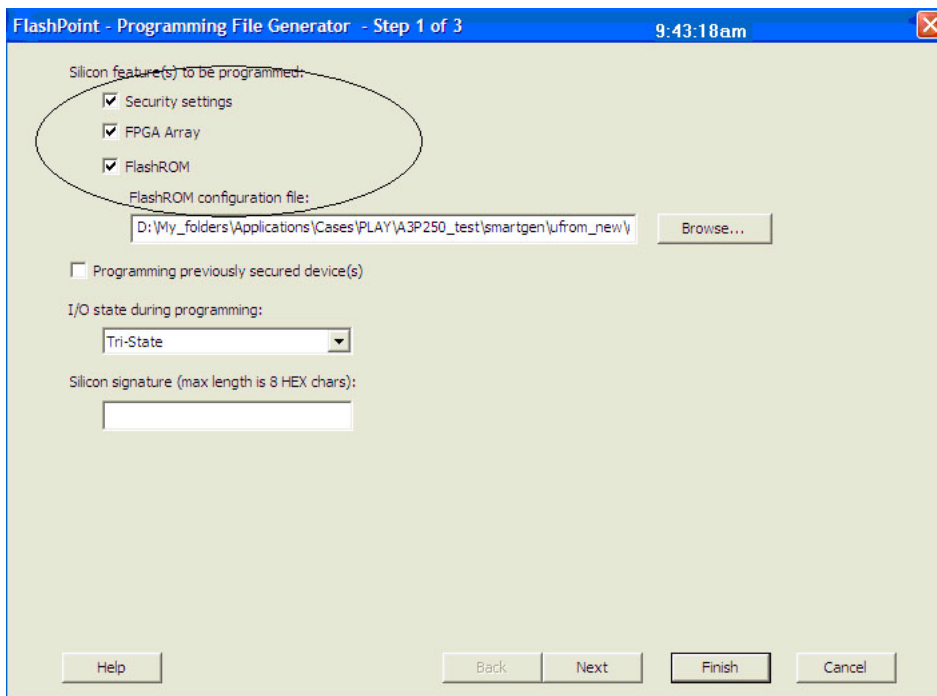
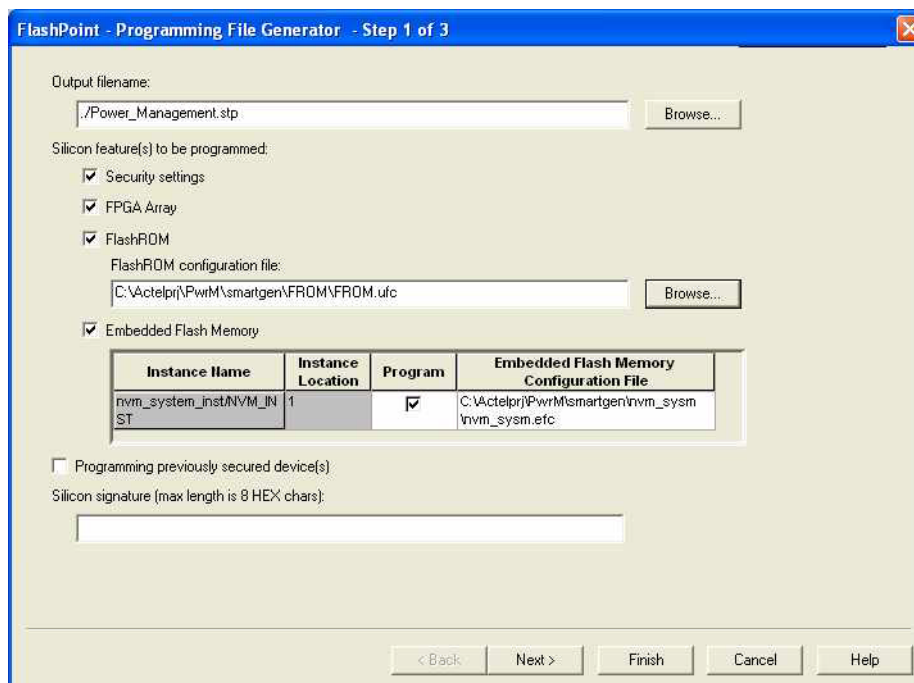
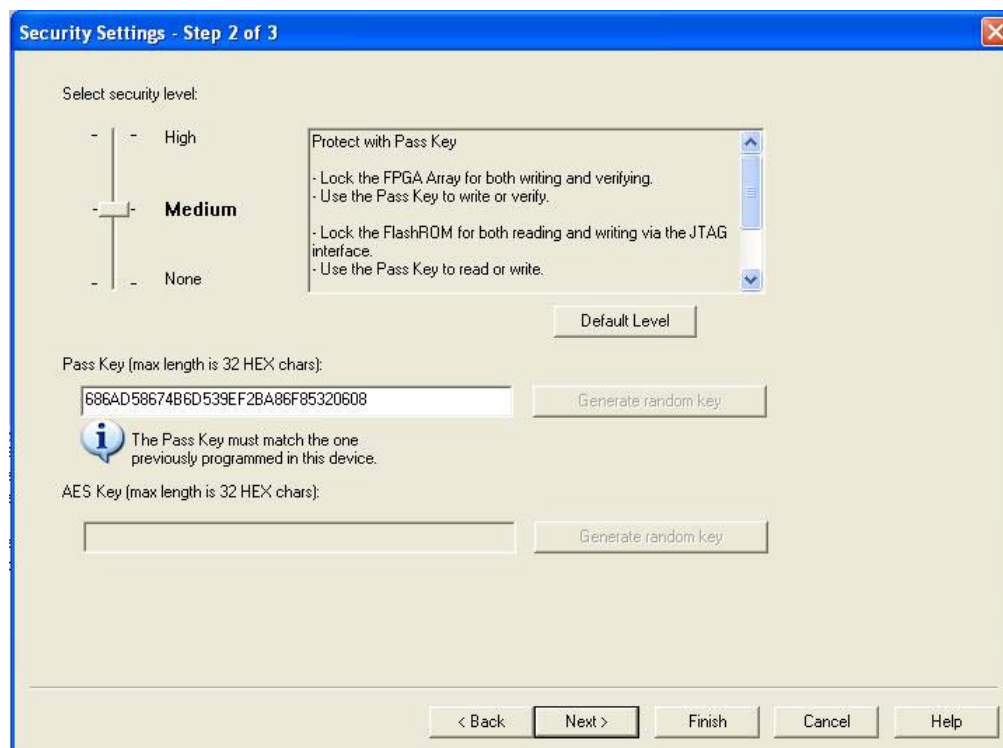

Figure 11-10 • All Silicon Features Selected for IGLOO and ProASIC3 Devices
Figure 11-11 • All Silicon Features Selected for Fusion
Figure 11-19 • FlashLock Pass Key, Previously Programmed Devices
1. Select the **Silicon features to be programmed** (Security Settings, FPGA Array, FlashROM, Flash Memory Blocks), as shown in Figure 11-10 on page 260 and Figure 11-11 on page 260. Click **Next**.
Figure 11-10 on page 260 and Figure 11-11 on page 260 show the option **Programming previously secured device(s)**, which the user should select before proceeding. Upon going to the next step, the user will be notified that the same FlashLock Pass Key needs to be entered, as shown in Figure 11-19 on page 268.
It is important to note that when the security settings need to be updated, the user also needs to select the **Security settings** check box in Step 1, as shown in Figure 11-10 on page 260 and Figure 11-11 on page 260, to modify the security settings. The user must consider the following: